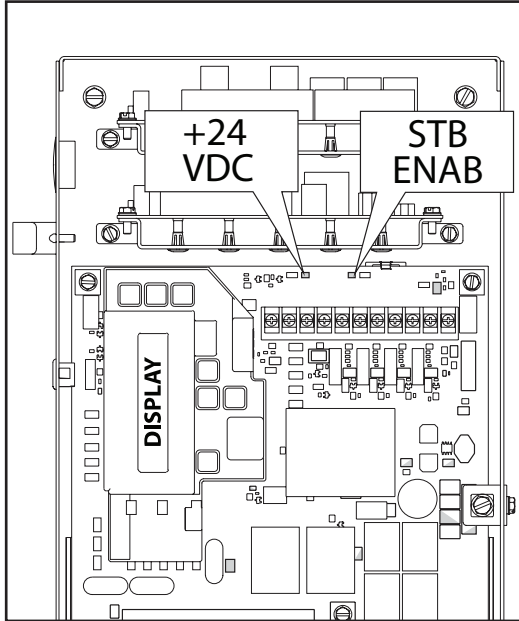

**Figure 5**
### TROUBLESHOOTING EXAMPLE USING RUN AND ERROR CODE MEMORIES. Fig. 5
2. List as shown in Fig. 5.